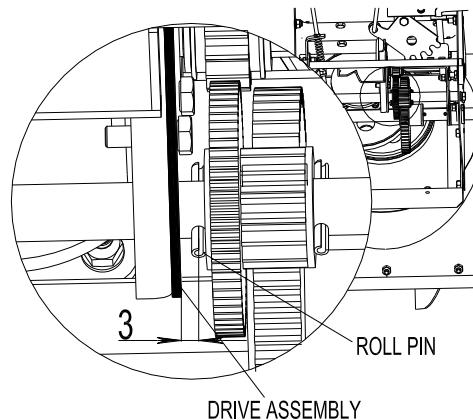

FIG 22
**Note:** The drive assembly should be 1/8 inch (3mm) from the roll pin; if not, slide the shift plate until the gap is 1/8 inch (3mm). (FIG 22)